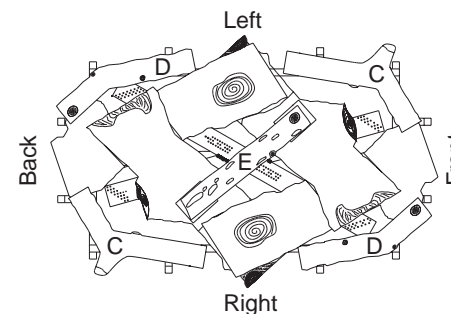

Figure 47 - Installing Twigs "C, D, E" (Top View)
10. Take twigs "C" (shaped like a "Y") and place them as shown in Figure 47.
11. Take twigs "D" (bent twig) and place them as shown in Figure 47.
12. Place twig "E" across the top of logs "B" as shown in Figure 47.
13. When finished installing the logs, close the glass doors while making certain that the safety door switch is fully depressed by the door frame before securing the four (4) spring loaded latches.